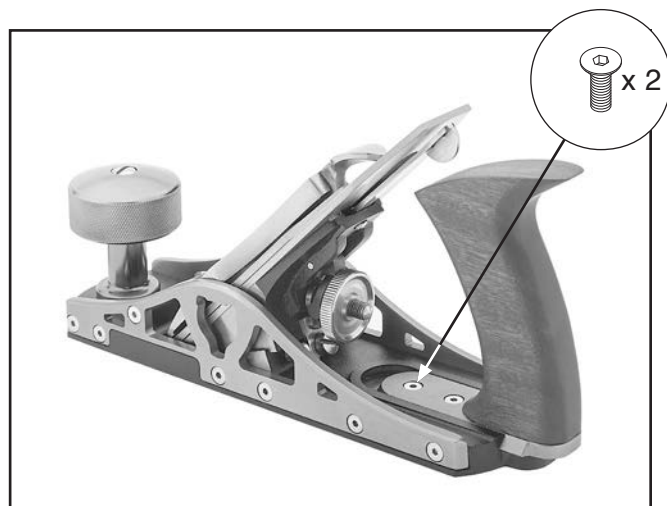

Figure 9. Tote adjustment components.
1. Loosen and remove (2) flat head cap screws on base of tote (see **Figure 9**).
2. Slide tote in or out depending on desired positioning, then install and secure (2) flat head cap screws removed in **Step 1** (see **Figure 9**).